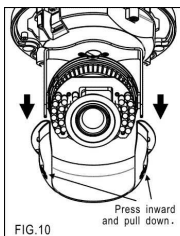

FIG.10
6. Take down the inner cover from the camera module (FIG.10), and then adjust the direction of the lens through the adjustable Pan/Tilt bracket and rotatable round bracket for Azimuth (FIG.11).